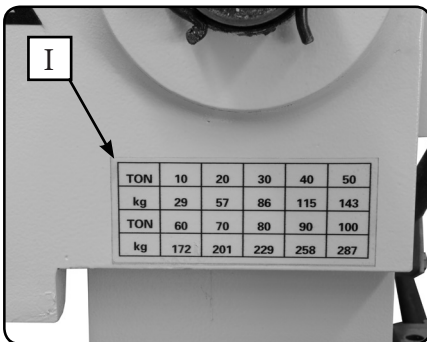

Fig. 11
- I. Tonnage Chart - Displays the tonnage at listed pressure (Fig.11)